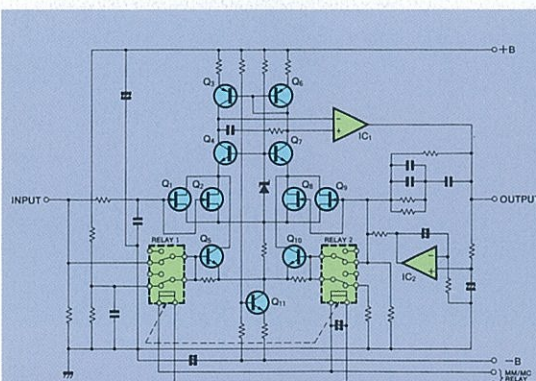

Fig. 4 C-11 MM/MC Equalizer Amp.
Fig. 4 shows the circuit configuration of the phono stage. Separate input circuits are provided to handle both moving-coil (MC) or moving-magnet (MM) cartridges. As the output voltage and output impedance of MM cartridges are high (with impedance reaching 10 kilohms at high frequencies), the input of the MM stage